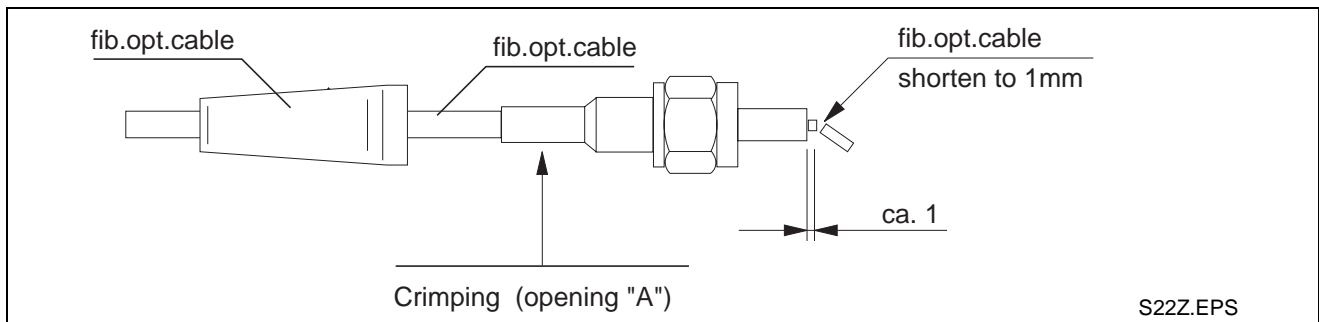

Fig. 7-3: Making an LWL with FSMA connector
- ⇒ Crimp with "A" opening of crimp plier per Fig. 7-3.